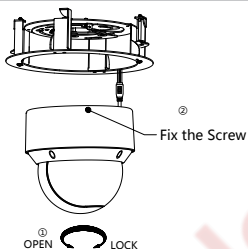

Figure 2-58 Fix the Camera
6. Fix the screws on the side with a screwdriver, as shown in Figure 2-58.